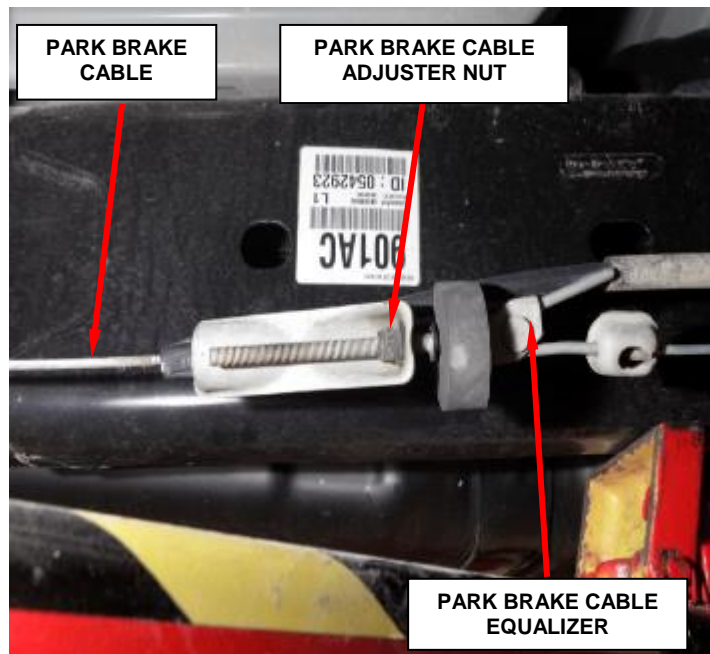

Figure 9 - Park Brake Cable Adjustment
- a. Mark the location of the park brake cable adjuster nut (Figure 9).
- b. Loosen the park brake cable adjuster nut until the cables are slack (Figure 9).